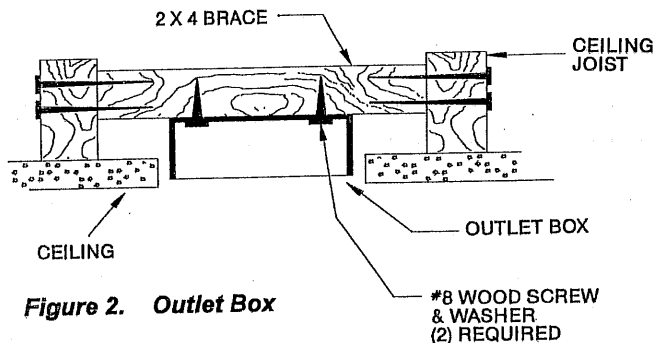

Figure 2. Outlet Box
A. Secure metallic outlet box 4" X 1-1/2" or 4" x 1/2" deep to 2 X 4 cross brace between two ceiling joists as shown in Figure 2. The outlet box must be recessed into the ceiling by 1/16" minimum. Secure the outlet box to the cross brace by drilling (2) pilot holes no larger than the minor diameter of the wood screws (5/64") and use two #8 x 1-1/2" wood screws and washers. Use the innermost holes for securing the box. Orient the box so the outermost holes will be used in step 4B.